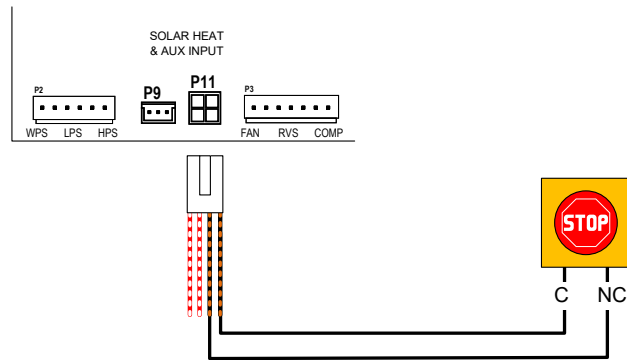

Figure 158. Auxiliary Input Wiring
2. Inside the heater's control box, connect the 2-wire cable to the control board terminal labeled "SOLAR" [P11] using the harness adapter labeled "Solar Temperature Sensor / Auxiliary Safety Input" supplied with the heater in the accessories bag. Make sure to use only the orange wire with black stripes to connect the external safety device. See Figure 158 for details.